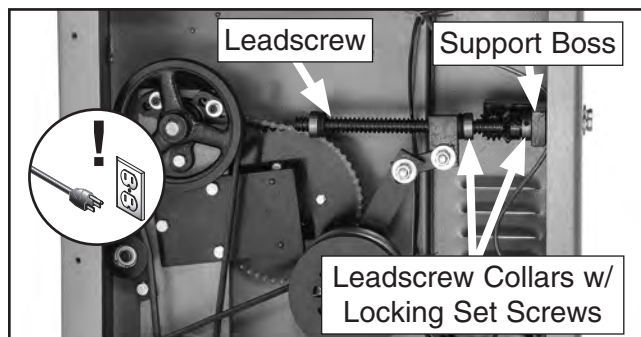

Figure 67. Leadscrew adjustment locations.
2. Remove the rear lower access panel, and loosen both collar locking set screws just enough to adjust the collars (see **Figure 67**).